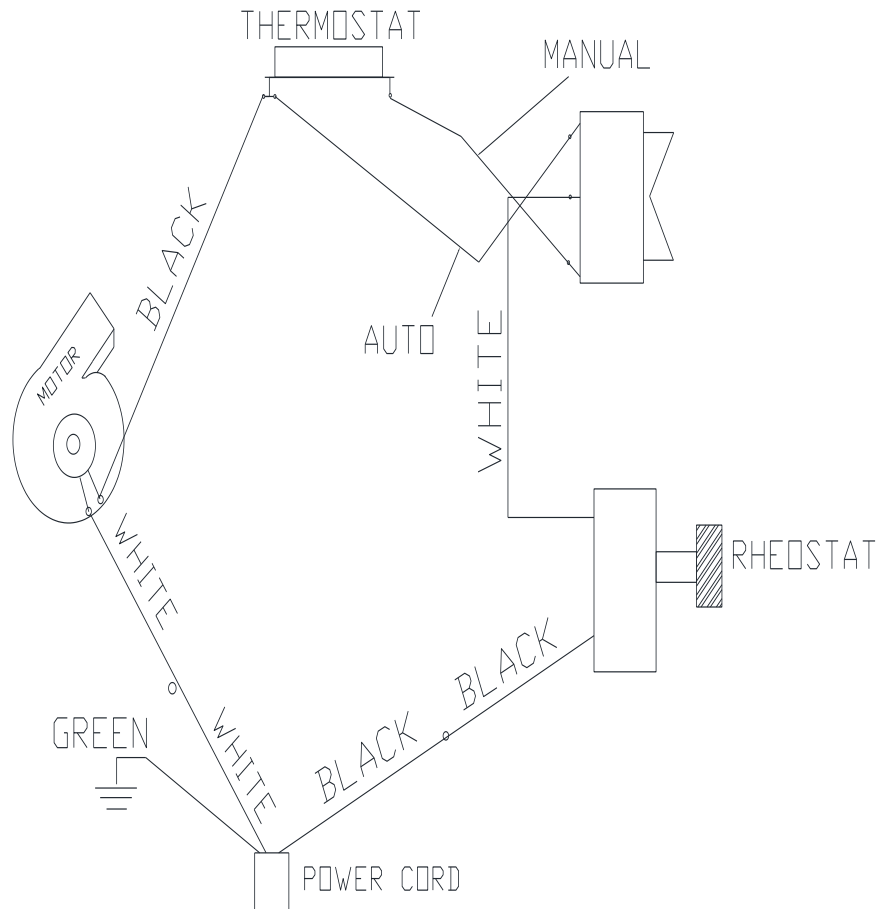

Figure 36
7. Hook up wiring to all components, if you have replaced or unhooked them to rewire motor, rheostat or switch. If you need to see wiring diagram See Page 42, Figure 36. If rheostat was removed, replace rheostat with the nut and replace control knob, reconnect wires to switch.
2. Mark and unhook wires. Gently push thermostat up and out of thermostat bracket and replace with new thermostat. Reinstall wiring and cover screen. See Figure 35. If you need to see wiring diagram See Page 37, Figure 36. Plug heater back into a 115V AC outlet.
2. Mark and unhook wires. Bottom under hearth is rheostat. Remove control knob and nut and replace with new rheostat installing with nut, then control knob. Reinstall wiring and cover screen. See Figure 35. If you need to see wiring diagram See Page 37, Figure 36. Plug heater back into a 115V AC outlet.